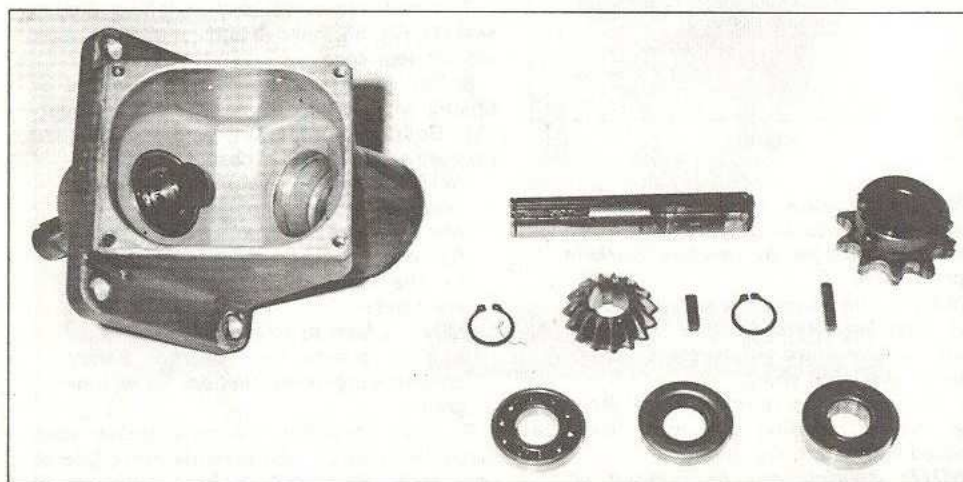

FIG. 67
10. Install inner bearing from inner side of gear case. Press bearing in until bearing bottoms on shoulder located on inside of gear case bearing bore. When seated, bearing will be flush with inner side of gear case, Fig. 67.